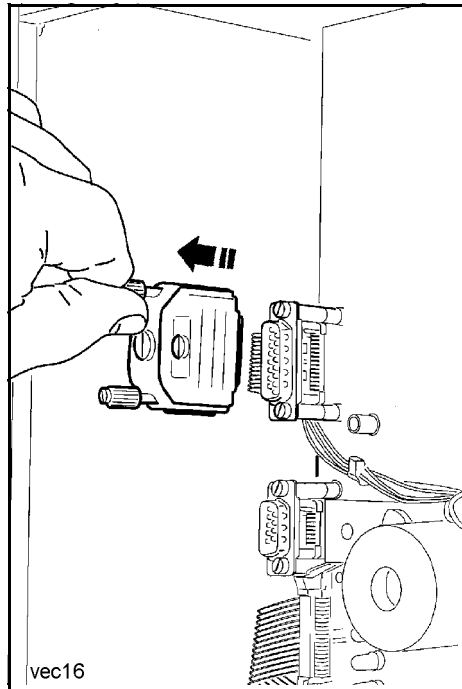

Fig. 109 Removing the teach key
- Remove the teach key (**Fig. 109**).